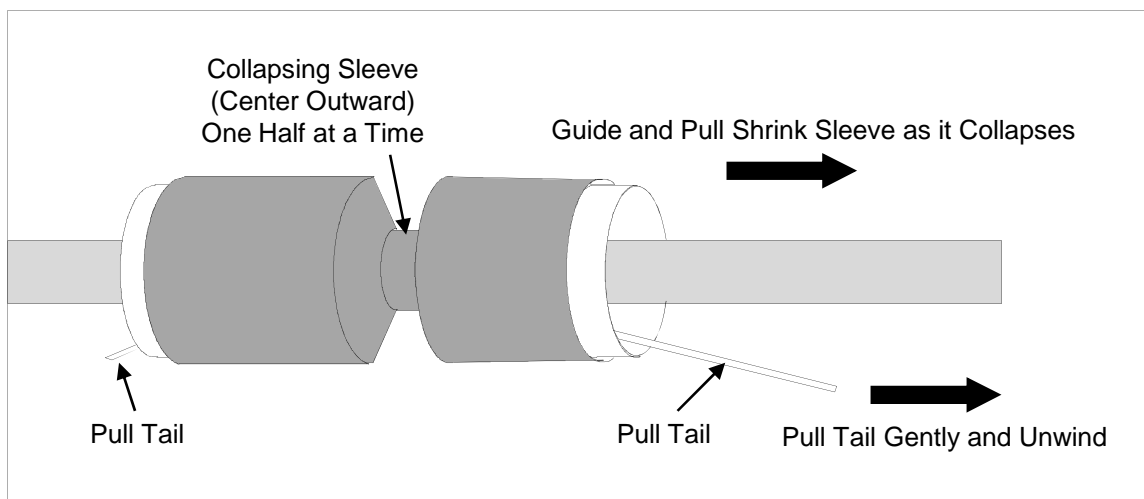

Figure 10
10.1 Center shrink sleeve over coupled splice area. Confirm that one pull tail of the sleeve's plastic core inner wrapping is accessible at each end of the sleeve. **See Fig. 10.**